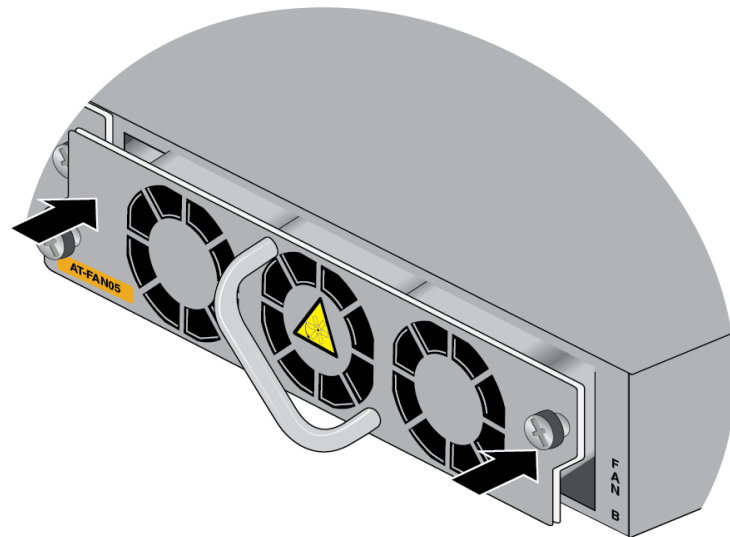

Figure 158. Seating the FAN05 Module on the Internal Connector
3. When you feel the module make contact with the internal connector, gently press on both sides to seat the module on the connector. Refer to Figure 158.